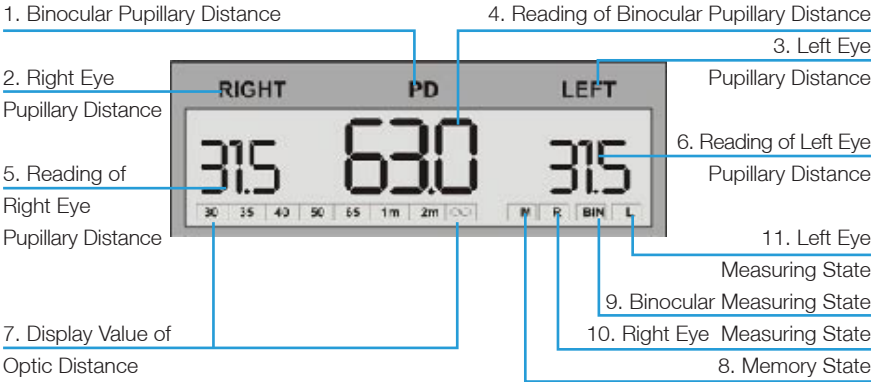

Fig. 2
4. Display Window (as shown in Fig. 2)